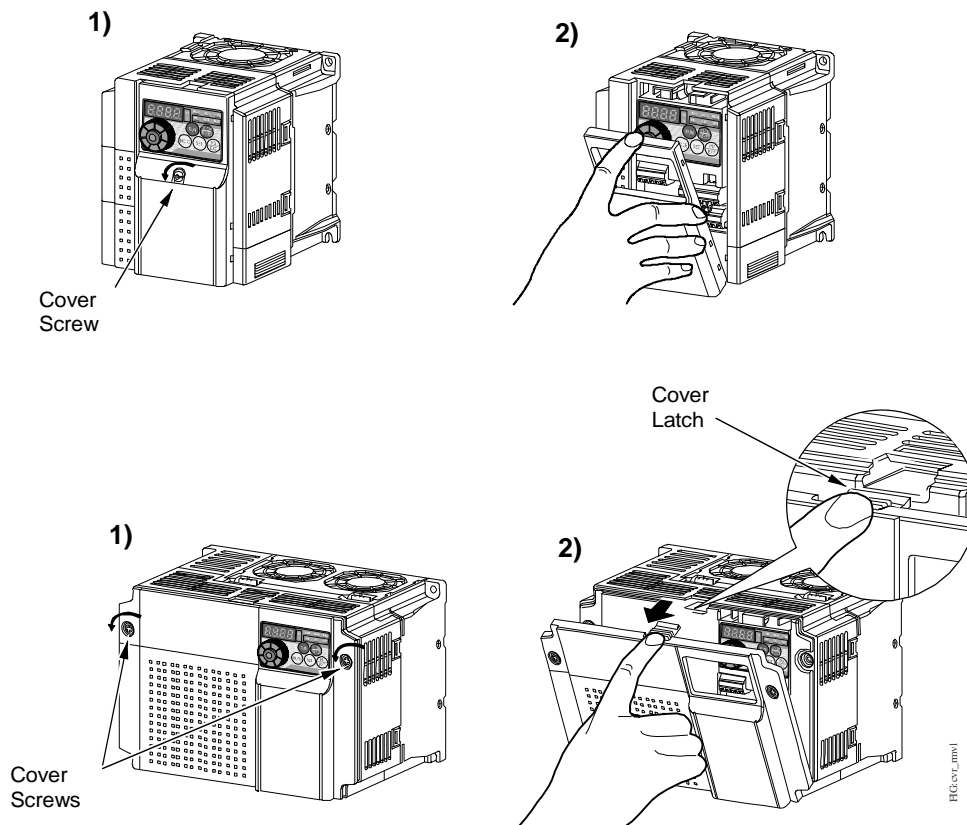

Figure 9: Loosen the Cover Screws and Remove the Front Cover
1. Loosen the screws on the front cover and remove the cover to access the low-voltage wiring (Figure 9).
1. Loosen the screws on the front cover and remove the cover to access the low voltage wiring (Figure 9 on page 18).